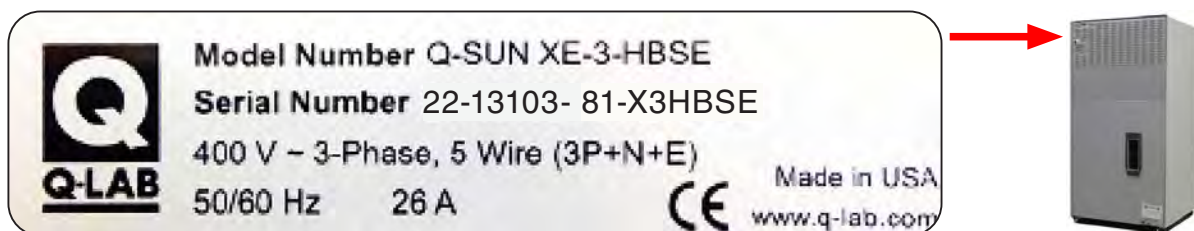

Figure 5.8b: Tester voltage and current shown on nameplate.
- The input voltage and current rating are shown on the nameplate attached to the rear of the unit (Figure 5.8b).